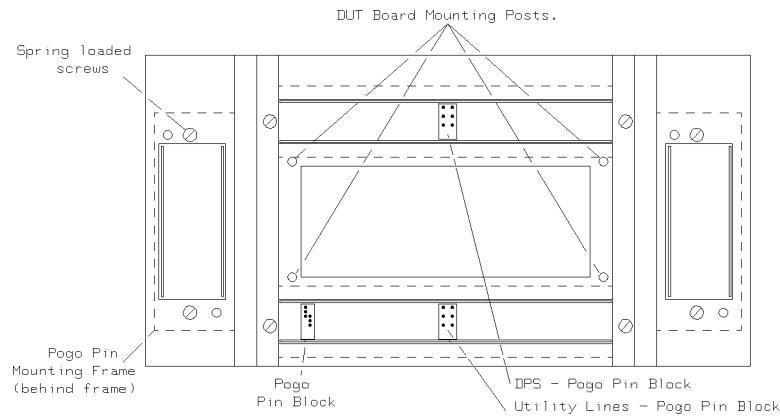

Figure 2-1. Bottom Frame Showing Mounting Posts
- **Bottom Frame** - housing blocks of pogo-pins, carrying DUT signals. Fitted to the bottom frame are 4 mounting posts which locate the DUT board inside the interface.(Figure 2-1)